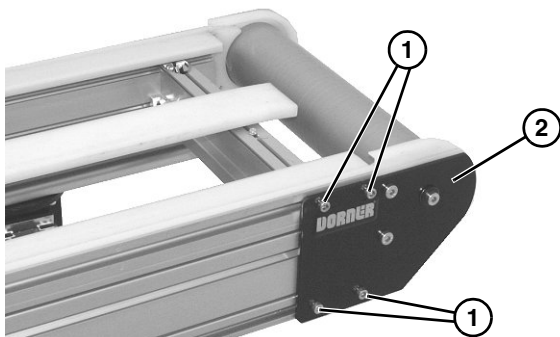

Figure 41
2. On one side of conveyor, loosen the four socket head screws (Figure 41, item 1). Repeat on opposite side.
3. Remove idler tail assembly (Figure 41, item 2).